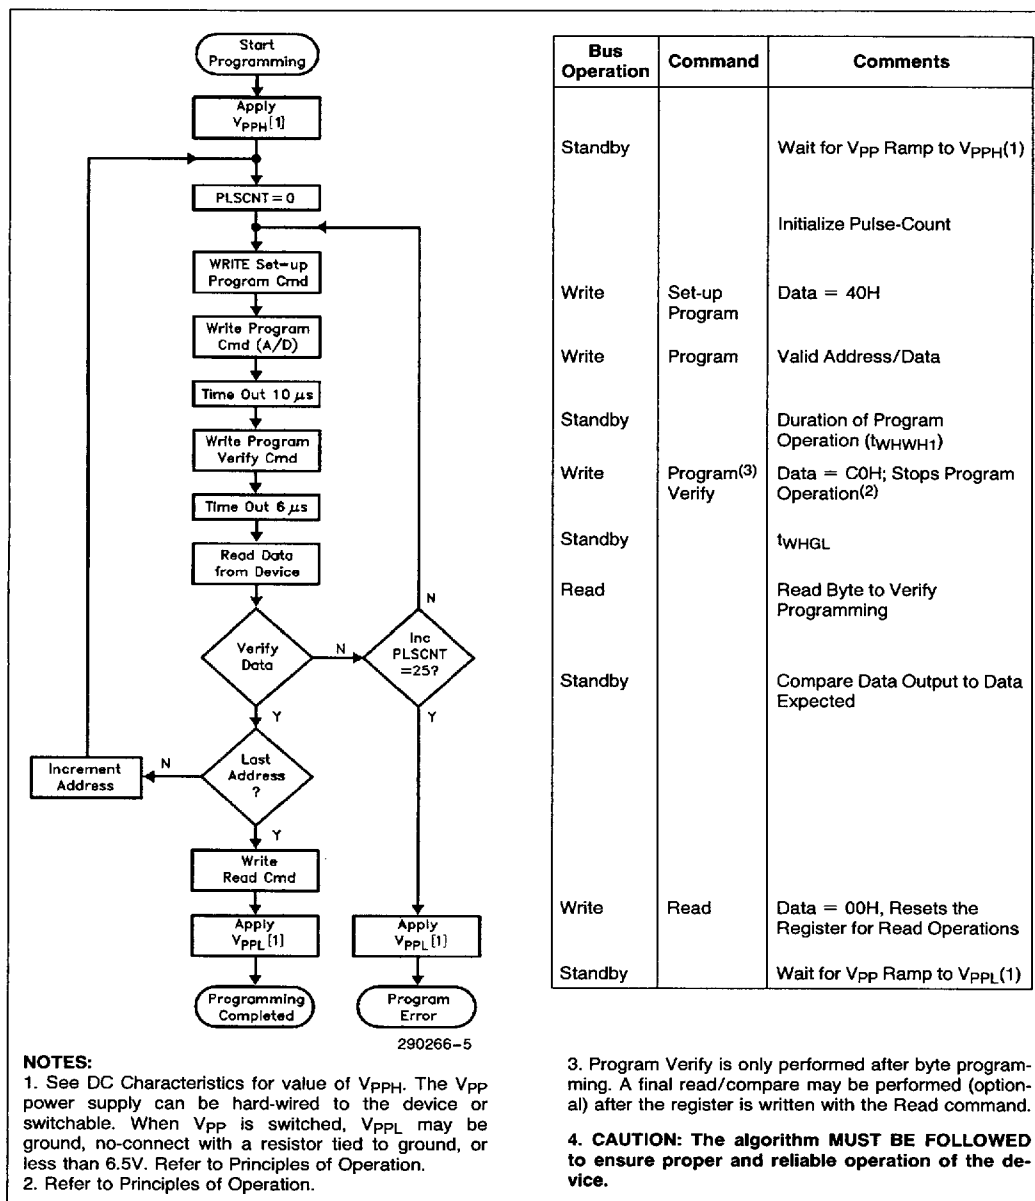

Figure 4. 28F010 Quick-Pulse Programming Algorithm
- Figure 4 illustrates the Quick-Pulse Programming Algorithm.
The 28F010 applies an internally-generated margin voltage to the byte. A microprocessor read cycle outputs the data. A successful comparison between the programmed byte and true data means that the byte is successfully programmed. Programming then proceeds to the next desired byte location. Figure 4, the 28F010 Quick-Pulse Programming algorithm, illustrates how commands are combined with bus operations to perform byte programming. Refer to A.C. Programming Characteristics and Waveforms for specific timing parameters.
The Quick-Pulse Programming algorithm uses programming operations of 10 μ s duration. Each operation is followed by a byte verification to determine when the addressed byte has been successfully programmed. The algorithm allows for up to 25 programming operations per byte, although most bytes verify on the first or second operation. The entire sequence of programming and byte verification is performed with V_{PP} at high voltage. Figure 4 illustrates the Quick-Pulse Programming algorithm.